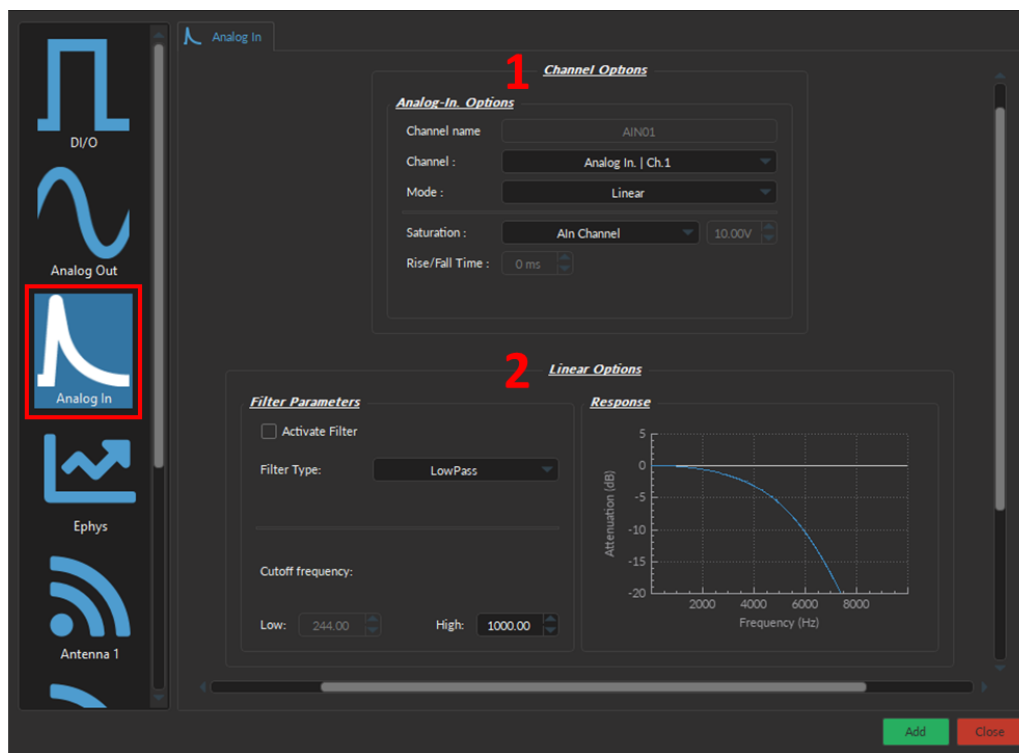

Figure 3.32: *Channel(s) configuration window, Analog Input*
The *Channel(s) Configuration* window for the **Analog Input** is divided into two sections (Fig. 3.32): (1) the **Channel Options** (Section 3.4.6.1) and (2) the **Mode-specific Options** (*Linear*, Section 3.4.6.2; *Interleaved*, Section 3.4.6.3; *Lock-In*, Section 3.4.6.4).
3. Three **Mode** are available to record the input signal, each of which have their own defined parameters in the Option box below **Channel Options** (Fig. 3.32, 3):